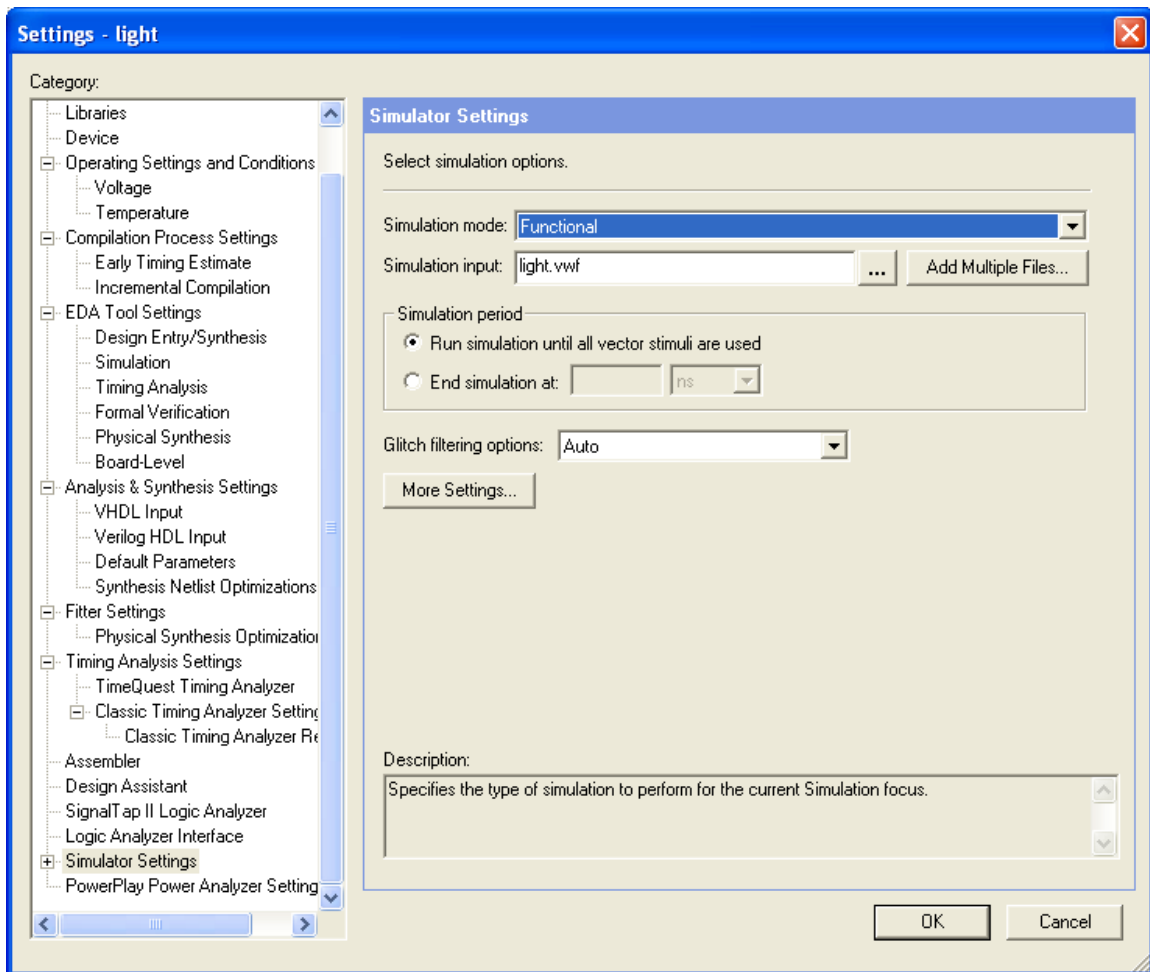

Figure 12. Specifying the simulation mode.
2. On the left side of this window click on **Simulator Settings** to display the window in Figure 12, choose **Functional** as the simulation mode, and click **OK**.